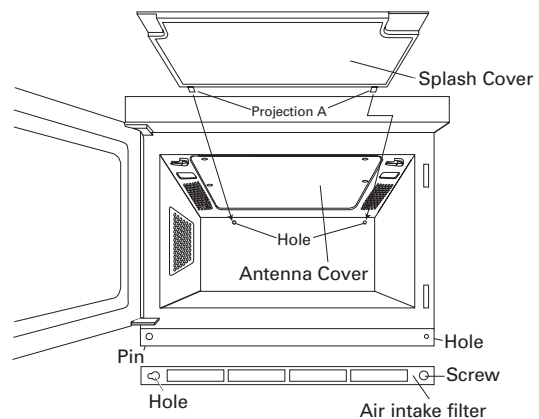

Fig.2
Remove the splash cover as shown in Fig. 2 and separate the frame from the cover.
**Remember to unplug the power cord.** Turn the 2 tabs holding the oven ceiling cover to the oven cavity ceiling as shown in Fig. 2, then gently pull the cover downwards to separate from the oven cavity ceiling. Then separate the cover from the frame. It is held in place by 4 catches.
**Remember to unplug the power cord.** Replace the cover in the frame. Insert projection A (2) into the 2 holes in the rear cavity wall and then insert projection B (2) into the 2 holes in the oven cavity ceiling as shown in Fig. 2. Then slide the tabs in place.